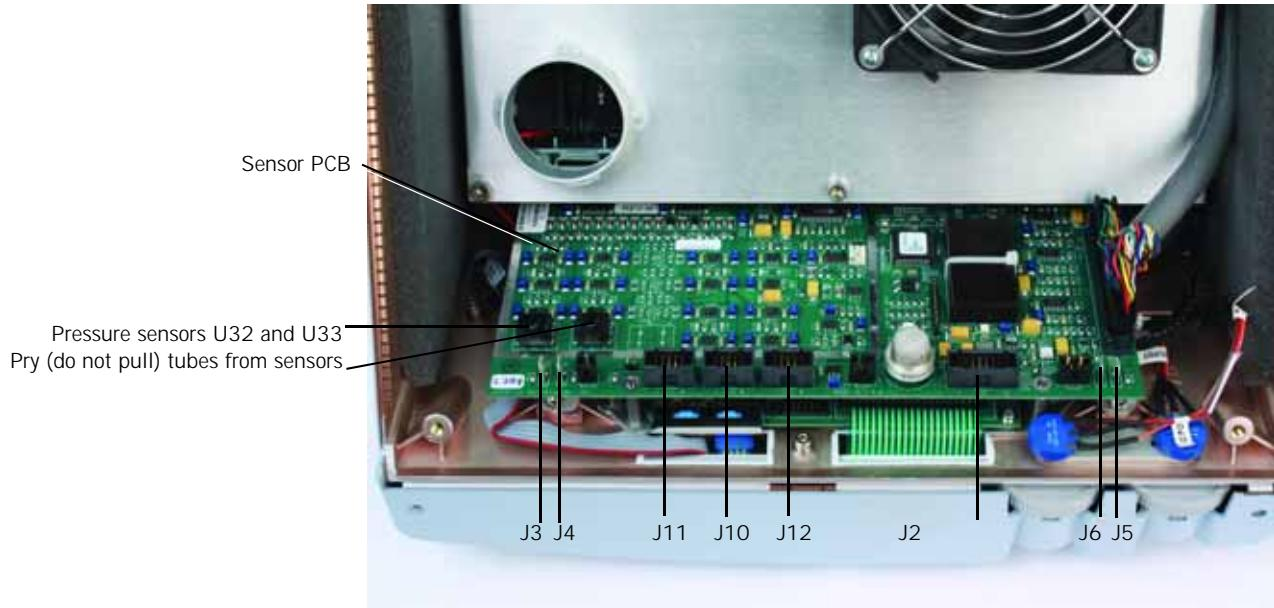

Figure 10-16: Sensor PCB
2. Disconnect all cables from the connectors on the sensor PCB (Figure 10-16):
2. Pull the sensor PCB off its standoffs, and move it aside (Figure 10-16).